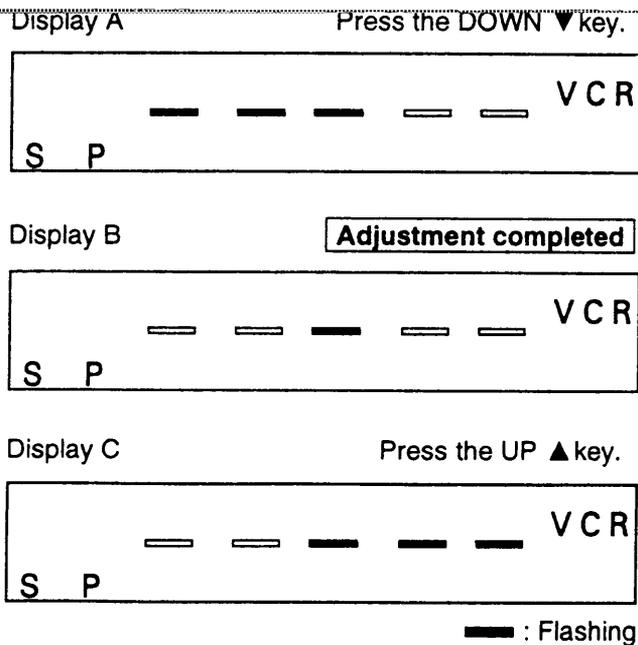
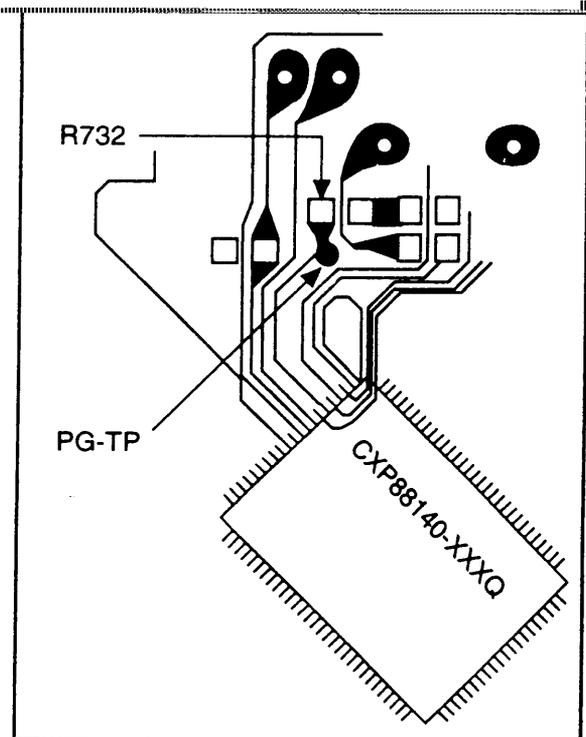

Figure 2
Figure 1
- Test Signal** : TPS-13(S) or 13S
- (1) Solder a 30cm long piece of lead to the PG-TP at the back of the Main PCB (Figure 1 below) and wind it round the back. (Take care not to short circuit nearby components.)
- (2) Playback the test tape and allow the automatic ATR to finish.
- (3) Connect the lead attached in step (1) to the Tuner (ETA01) earth line. (Make sure that the lead can not come loose.)
- (4) Adjust the display for FIP (H701) with the CH UP/DOWN (▲/▼) keys until it is as shown in Figure 2 Display B below.
- (5) Remove the lead.